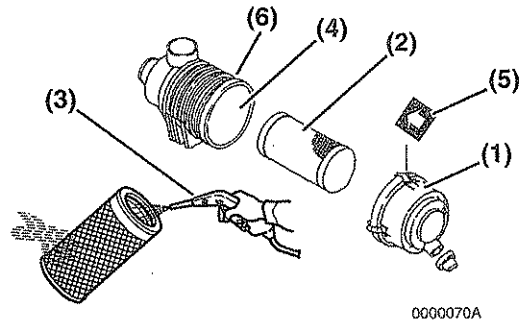
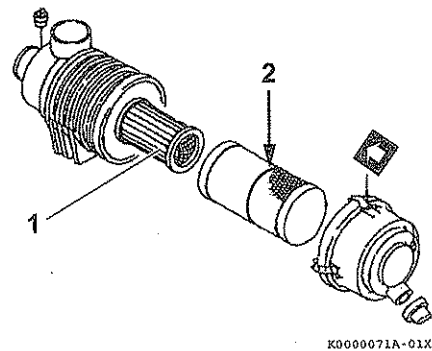

Figure 13
Figure 14
Note that a typical air cleaner is shown in **Figure 13** and **Figure 14** for illustrative purposes only.
1. Unlatch and remove the air cleaner cover (**Figure 13, (1)**).
2. Remove the element (**Figure 13, (2)**) (outer element if equipped with two elements).
3. Blow air (**Figure 13, (3)**) through the element from the inside out using 42 - 71 psi (0.29 - 0.49 MPa, 3.0 - 5.0 kgf/cm²) compressed air to remove the particulates. Use the lowest possible air pressure to remove the dust without damaging the element.
4. If the air cleaner is equipped with a double element, *only remove and replace the inner element (Figure 14, (1)) if the engine lacks power or the dust indicator actuates (if equipped).*
7. Reinstall the element into the air cleaner case (**Figure 13, (4)**).
Note: If there is a red line (**Figure 14, (2)**) in the outer element, reinsert the element until the overlap position of red line and end face of the air cleaner case.
8. Reinstall the air cleaner cover making sure you match the arrow (**Figure 13, (5)**) on the cover with the arrow on the case (**Figure 13, (6)**).
Replace the air cleaner element (**Figure 13, (2)**) every 500 hours even if it is not damaged or dirty.
When replacing the element, clean the inside of the air cleaner case (**Figure 13, (4)**).
If the air cleaner is equipped with a double element, *only remove and replace the inner element (Figure 14, (1)) if the engine lacks power or the dust indicator actuates (if equipped)*. This is in addition to replacing the outer element.